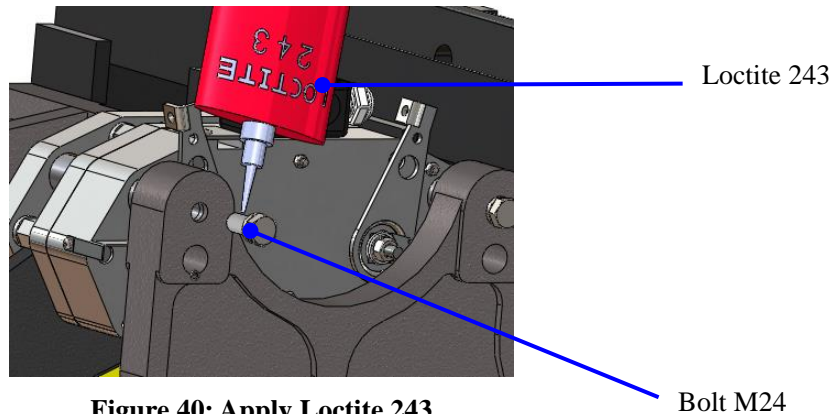
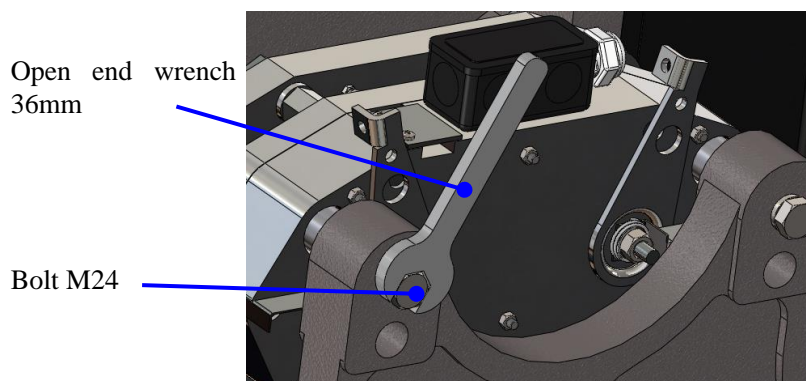

Figure 40: Apply Loctite 243
Figure 41: Tighten M16 bolts
3. Apply Loctite 243 on bolt M24 as Figure 40 shows. Tighten bolt to 488 Nm (360 ft-lbs.). See Figures 41 and 42.